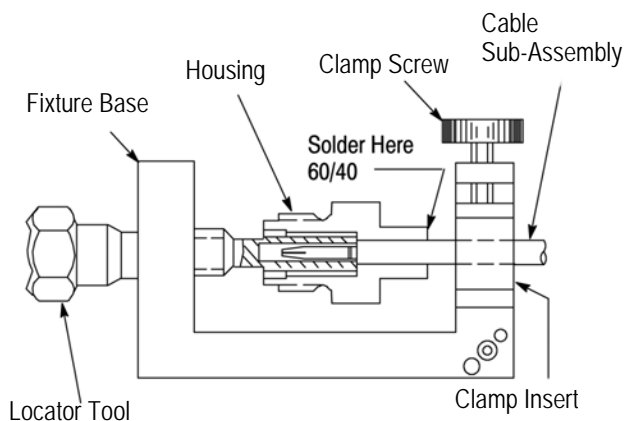

Figure 4
2. Place loose assembly in fixture base as shown in Figure 4.
3.3. Soldering of Cable Sub-Assembly to Housing (Figure 4)